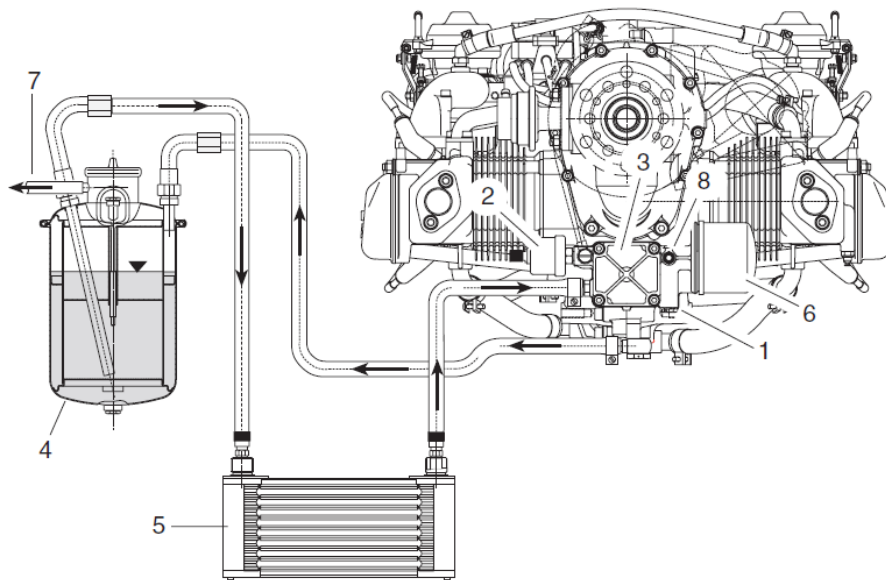

Figure 1.7.1. Engine Lubrication System.
The ROTAX 912 engine is provided with a dry sump forced lubrication system (please refer to figure 1.7.1.) equipped with a main oil pump integrated pressure regulator (1) and oil pressure sensor (2).